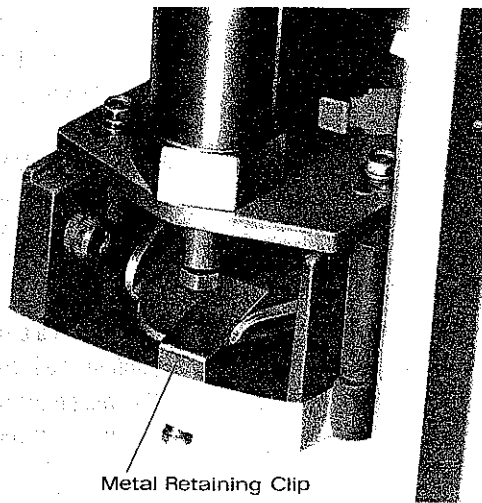

Figure 2: Remove metal retaining clip and tape before operation
THE CONTROLLER'S ORANGE SET POINTER MUST ALWAYS BE RAISED OR LOWERED BY MEANS OF THE KNOB ON THE LOWER LEFT-CORNER OF THE CHART PLATE. DO NOT ATTEMPT TO ADJUST THE SET POINT KNOB UNTIL CONDUIT KNOCK-OUT HAS BEEN REMOVED, AND PROTECTIVE METAL CLIP HAS BEEN REMOVED. SEE FIGURE 2.
3. Remove the metal clip from between the thermal assembly zero adjusting screw and the actuating lever. See Figure 2.